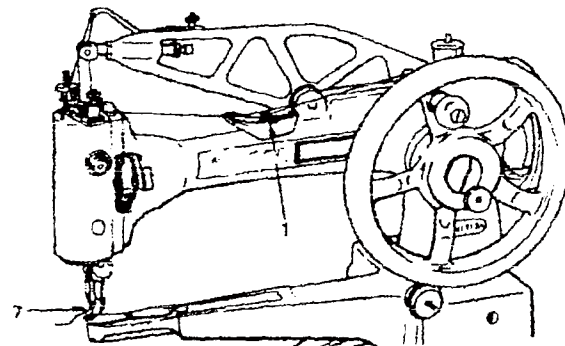

Fig. 18
1. Place the spool of thread on the spool pin so that thread will draw from the rear side of spool. See Fig. 18.